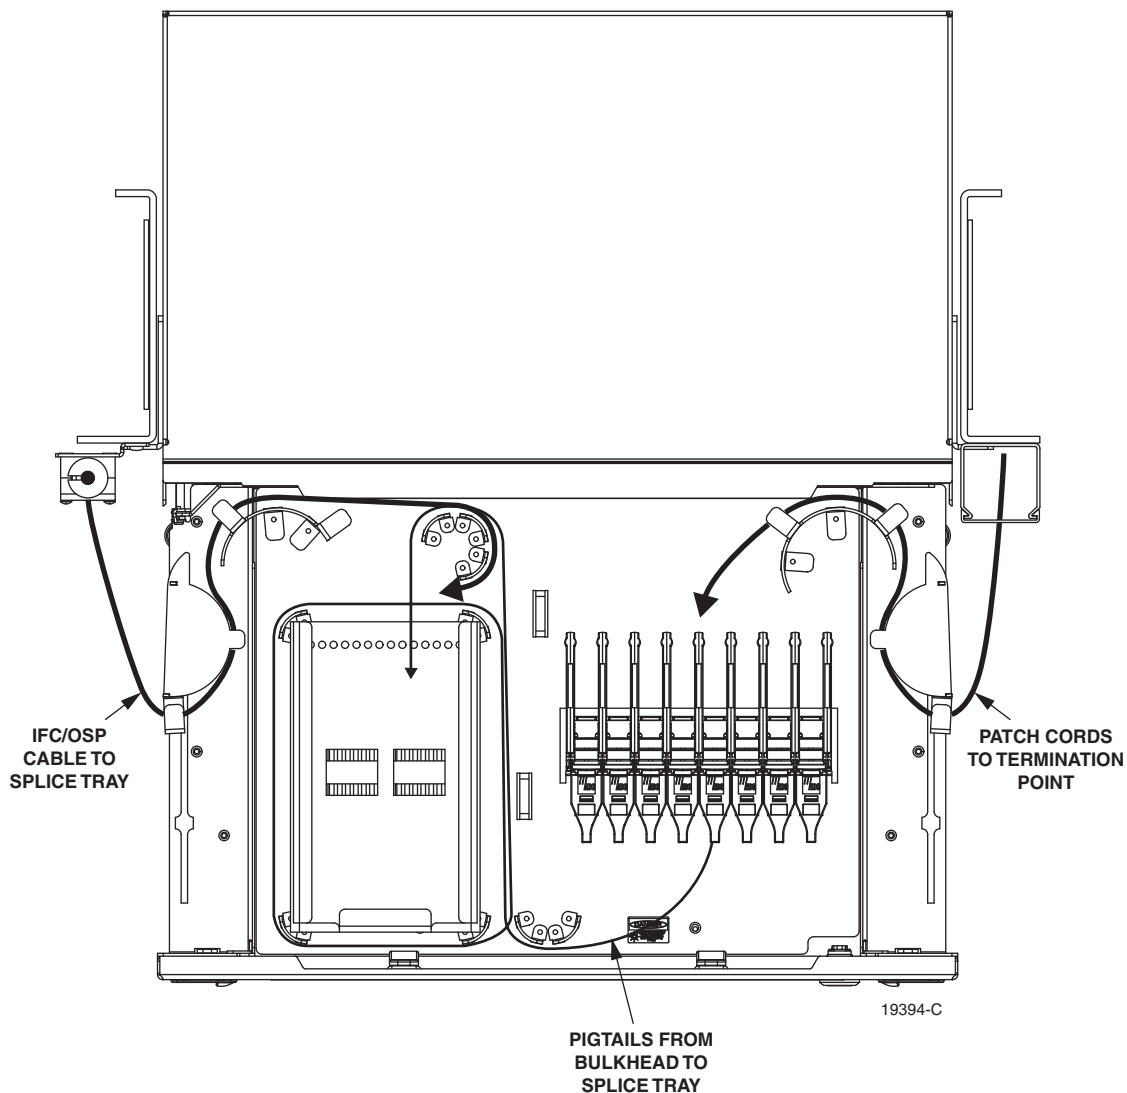

Figure 20. Cable Routing for 48-Position Termination/Splice Tray
5. Route the cables within the tray as shown in Figure 20.